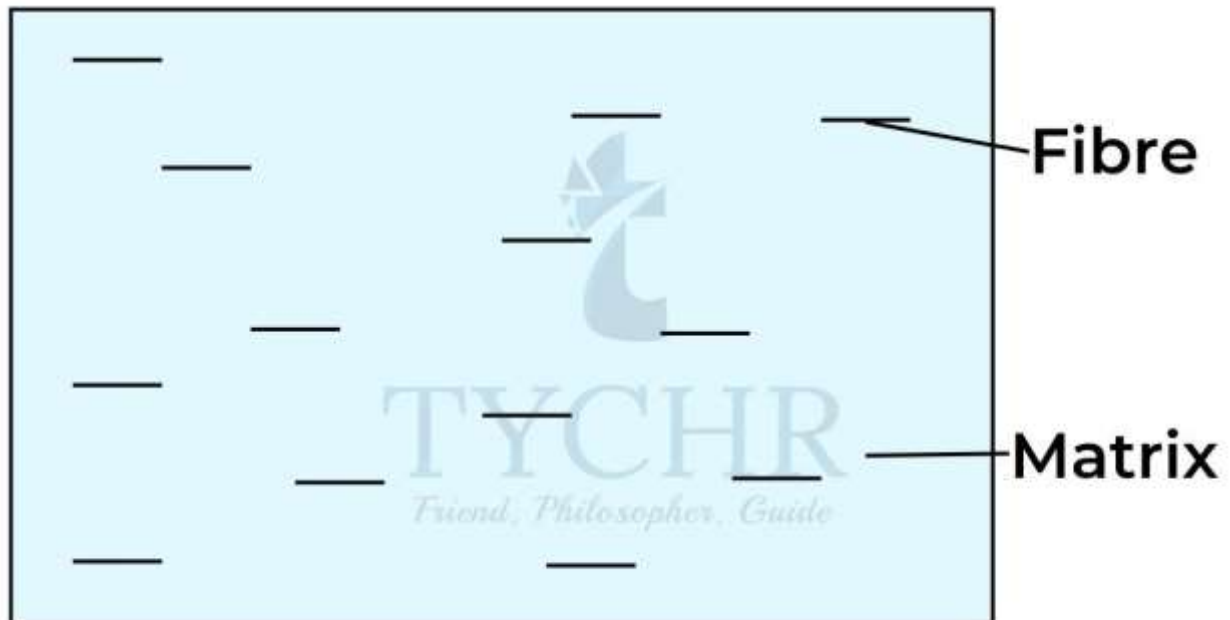

Figure 2: A composite material has fibres of one material embedded in a matrix made from a different material.
- The bonding in a material is determined by the magnitude and difference of the electronegativities (χ) of the constituent elements. This is illustrated by the triangle of bonding shown in Figure 2.